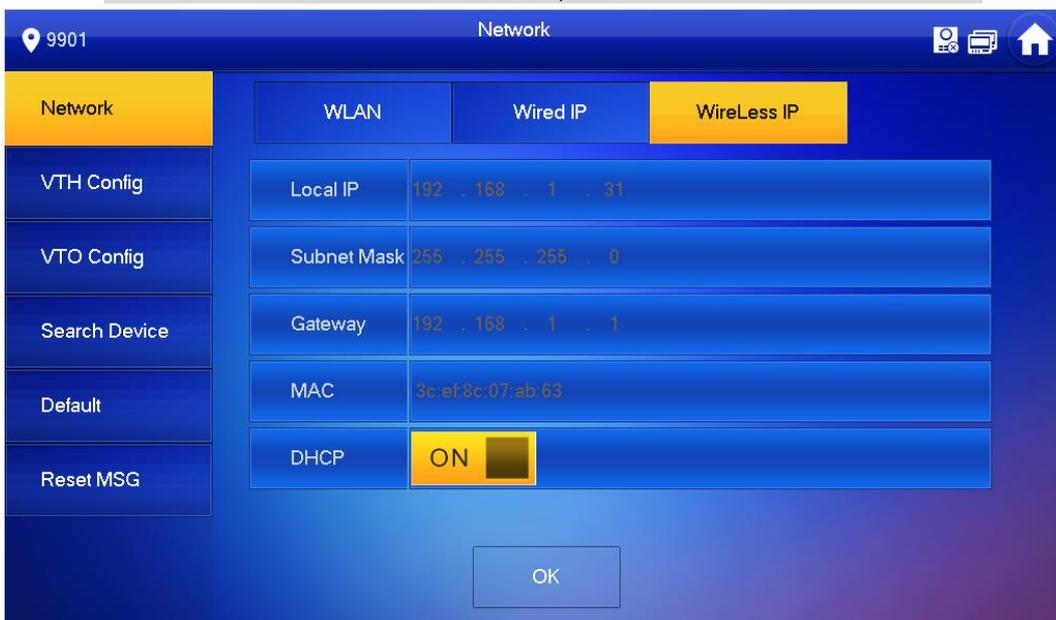

Figure 2-11
- ◇ At “WLAN” interface, select WIFI, click “Wireless IP” tab, press OFF to enable DHCP function and obtain IP info automatically, as shown in Figure 2-11.